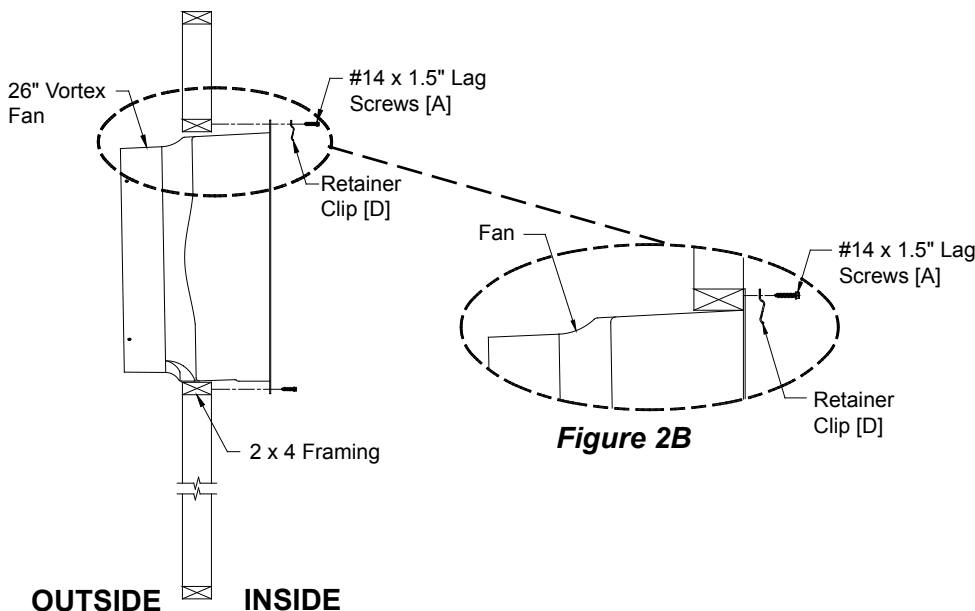
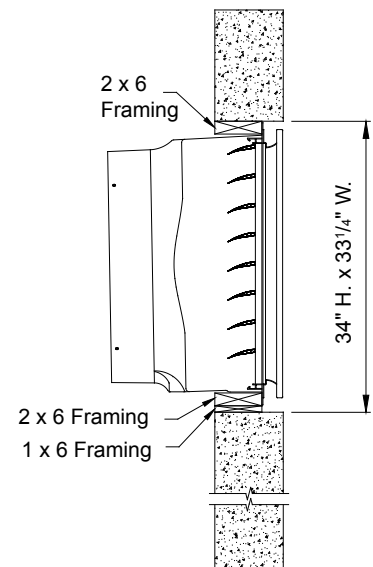

Figure 2A
Figure 3
Insert fan into the framed opening from the inside. Place (2) Fastener [D] under the top (2) Fastener [A]. **See Figure 2A.** While lifting fan up tight to framing, fasten top of fan with the (2) Fastener [A] and [D]. **See Figure 2B.** Next, fasten bottom of fan, then both sides with remaining (6) Fastener [A]. Install flashing around opening tight to fan and caulk around fan to seal. If fan and shutter needs to be mounted flush to inside wall, **See Figure 3** for framing details.